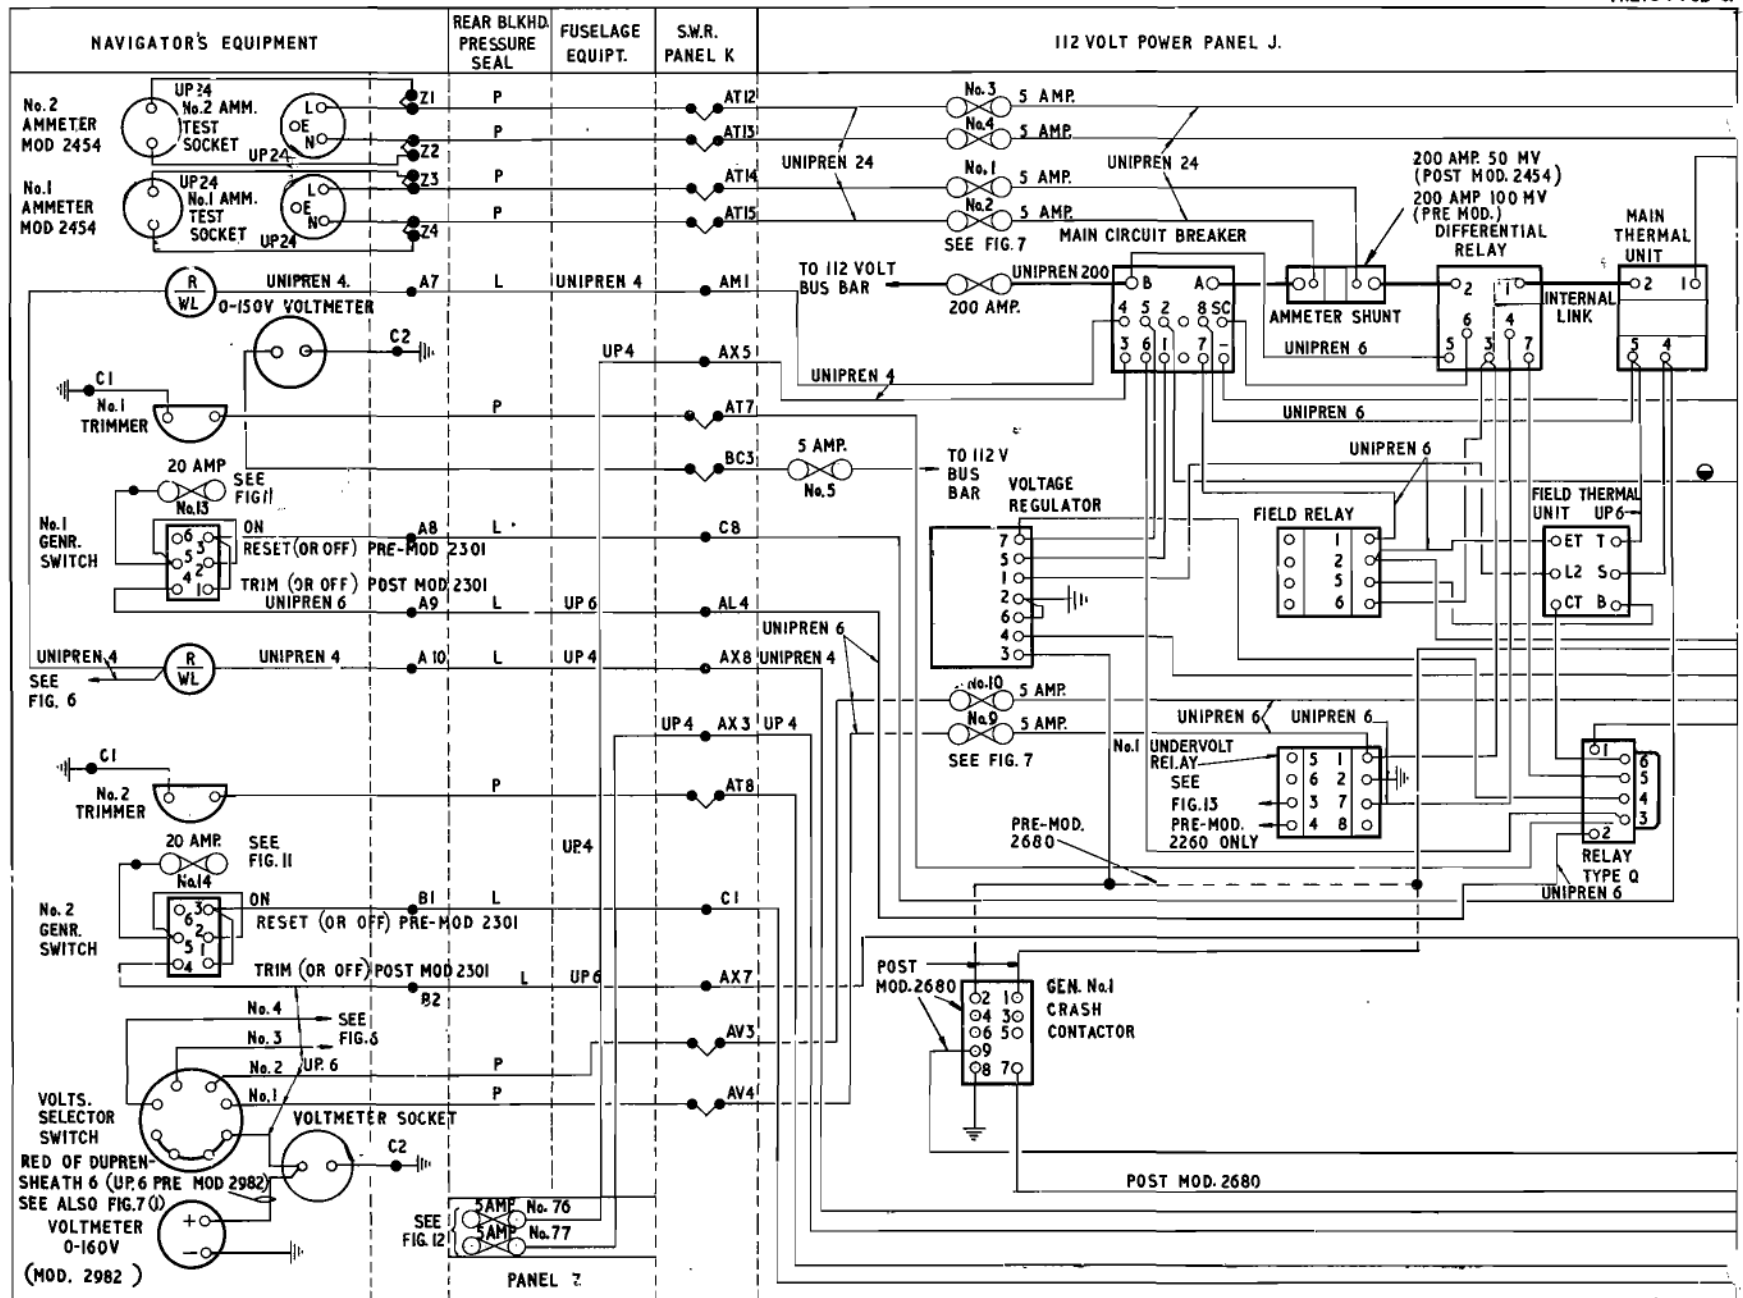
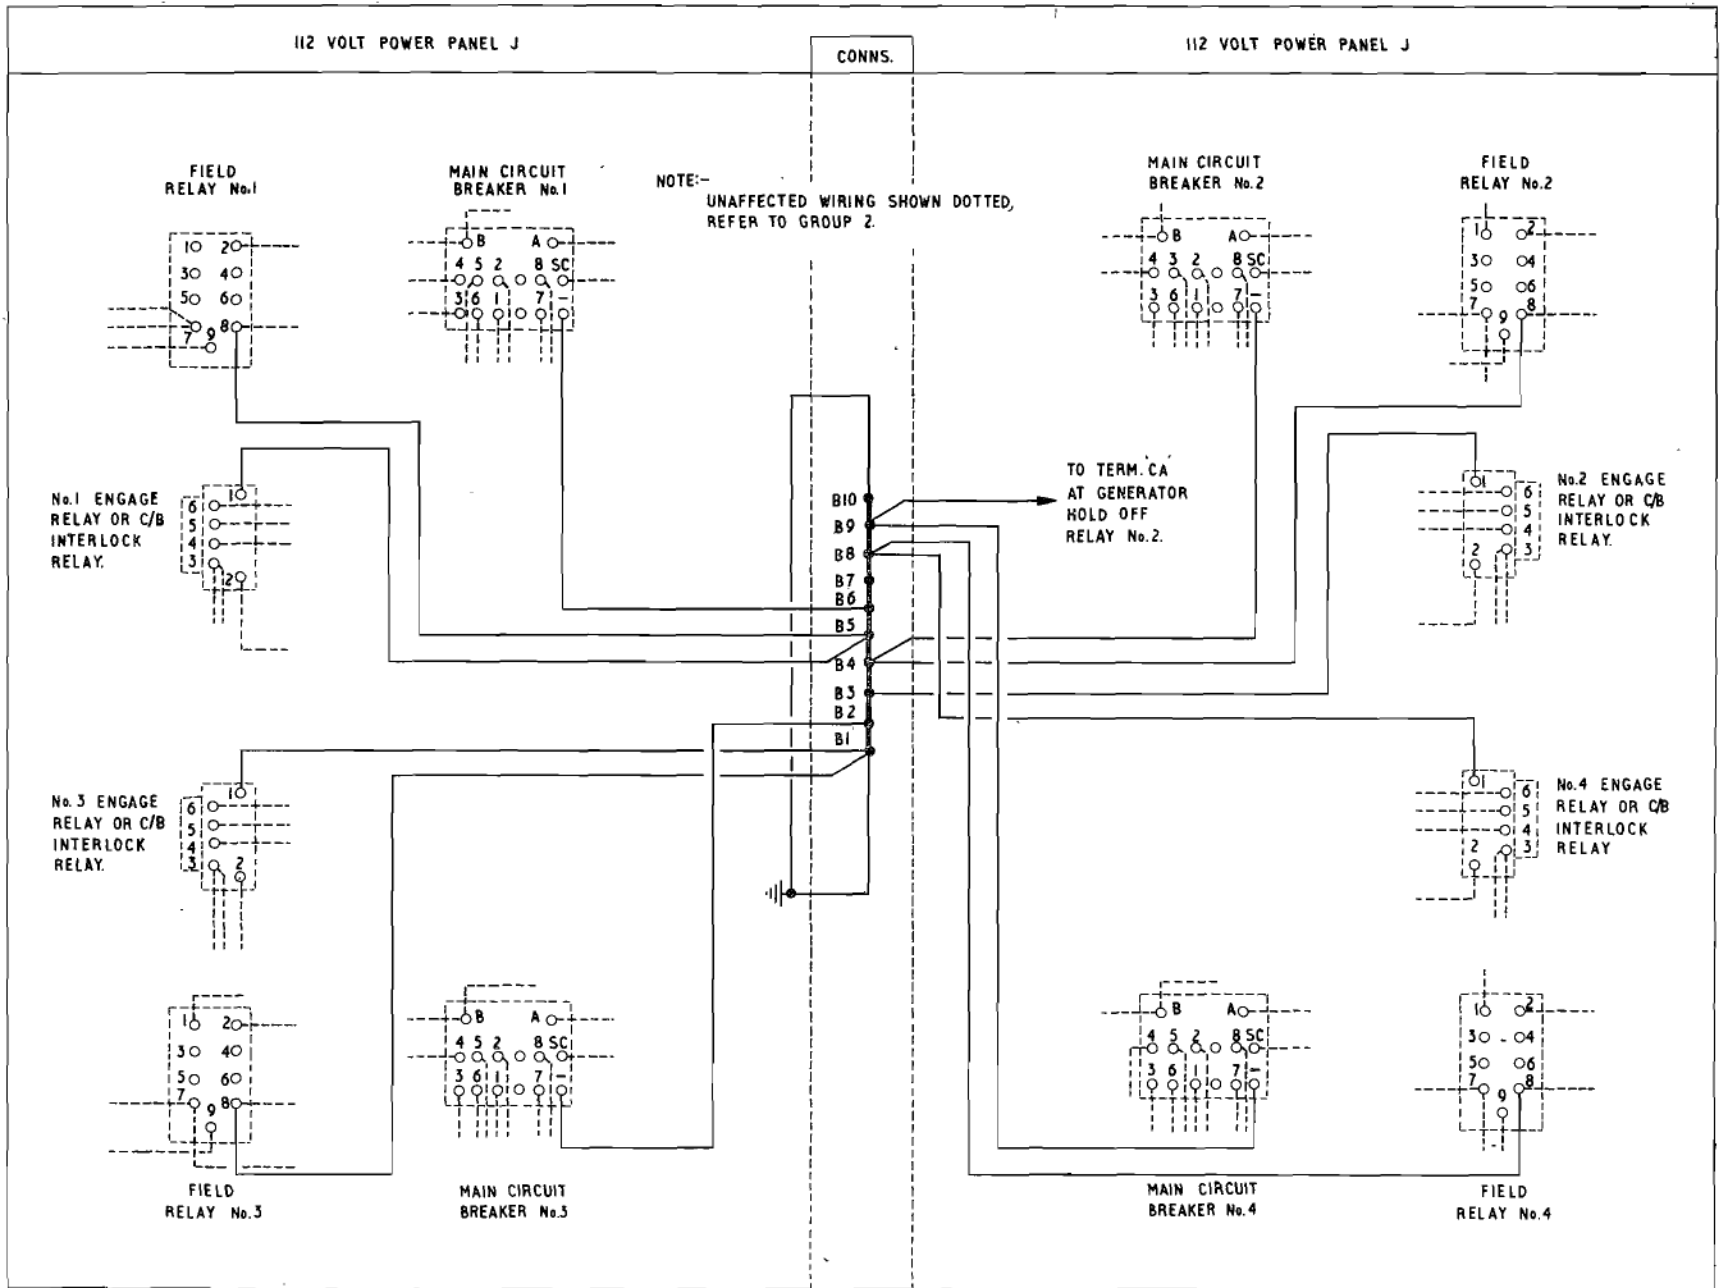

Fig. 5 (I) 112-Volt generators No.1 and No. 2 sets (post Mod 2240 & pre Mod 2817, 2933)
Fig. 1. Alteration to Fig. 5, 5A, 5B, 6, 6A and 6B in Group 2 (post Mod. 3076)
1. Under Mod. 3076 the earth connections shown in Fig. 5, 5A, 6, 6A and 6B in the basic Group are revised as shown in Fig. 1.